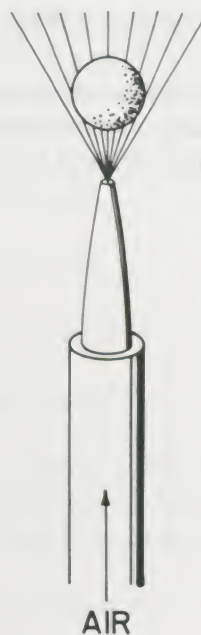

Figure 30.
4. Attach an air supply hose to the nozzle provided. Turn on the air and place a Ping-Pong ball in the air flow as in Figure 30. Describe what happens as the air stream is slowly tilted away from the vertical position.